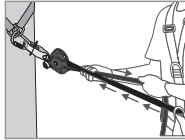
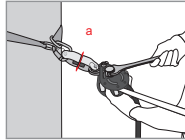

Fig. 3
Fig. 4
Once the lifeline is installed, a pre-adjustment of the tension must be made by pulling manually on the rope (knot end side – Fig. 3). Automatically, the cam (8) and the cam lever (4) must come into contact with the rope. Close the cam lever (4), then, using an appropriate wrench, apply tension on the tension adjustment bolt (1) until the tension indicator washer (a) placed on the tension indicator (2) turns freely (Fig. 4). Once this washer moves freely, STOP TIGHTENING! This corresponds to a pre-tensioning on the line of approximately 1kN. During use, regularly check this tension (rotation of the tension indicator washer) and adjust if necessary, as explained above.
**WARNING!** Do not try to activate the loosen the tension adjustment bolt (1) with the wrench, the cam (8) resists this loosening and resists rotating counter-clockwise. Significant loosening in this direction may have harmful consequences on the operation of the system and on the condition of the rope.